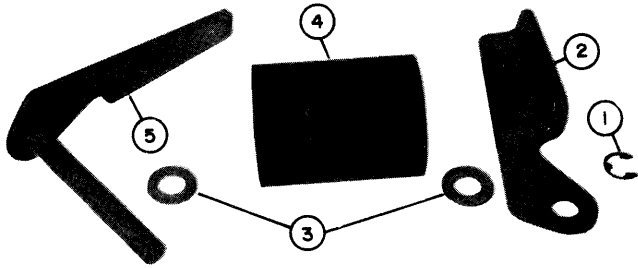

Fig. 1
1. Assemble the deck gauge roller by installing a washer, the gauge roller, another flat washer and the roller bracket on the roller bracket weldment and secure with the "E" ring. See fig. 1.